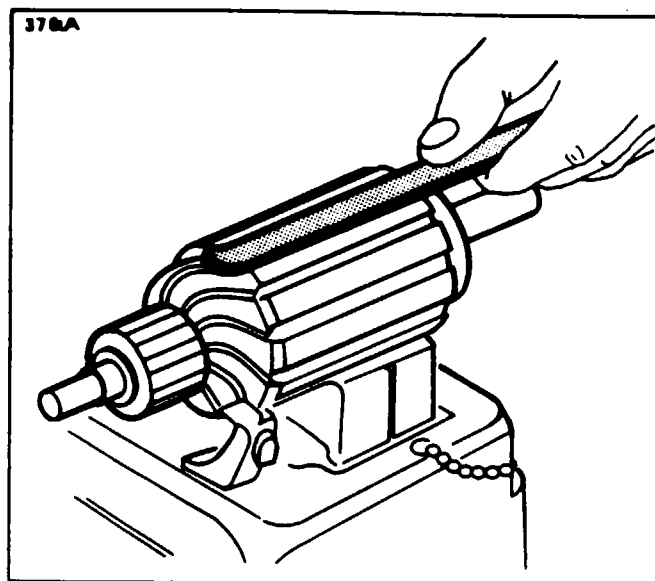

Figure 11-25. Testing Motor Armature for Shorts
c. To test for shorted armature coils, a growler is used. (Refer to Figure 11-25.) The armature is placed on the growler and slowly rotated by hand while a steel strip is held over the core so that it passes over each armature core slot. If a coil is shorted, the steel strip will vibrate.